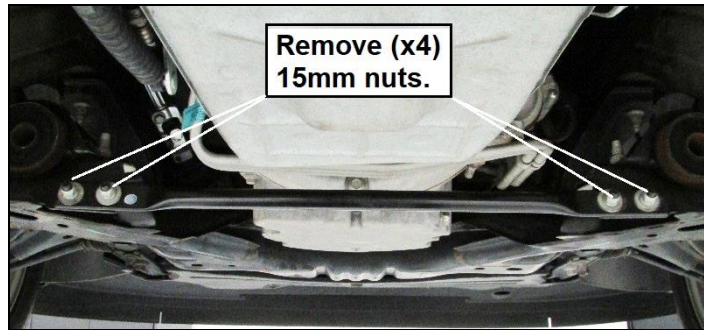

Figure 1
3. Remove the center cross brace by removing (x4) 15mm head nuts (**Figure 1**).